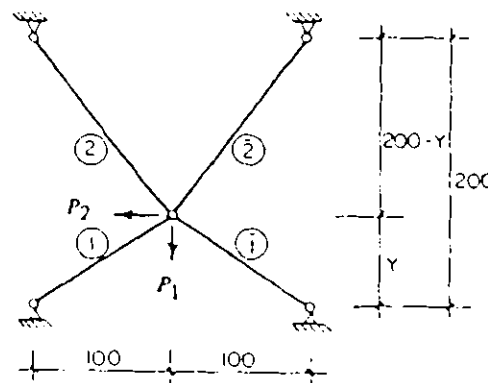

Figure 4
- (20) 4. The symmetric truss shown in Figure 4 is subjected to loads P_1, P_2 as illustrated and the response variables u_1, u_2 have direction and sign corresponding to these loads. The design variables in the problem are the cross-sectional areas of the bars designated as A_1, A_2 and the location of the middle node determined by Y . Young's modulus E is the same for all bars and is fixed.